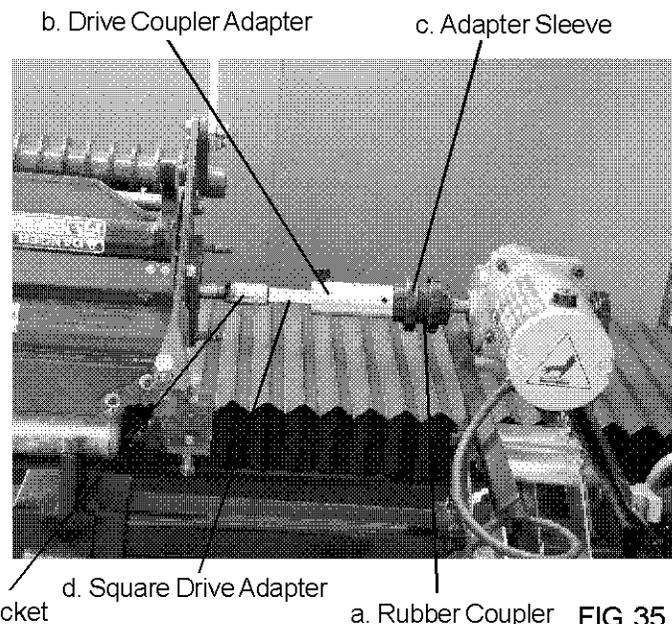

FIG. 35
- E. If the left side is lower than the right, turn the vertical adjusting grey handwheel in the cross slide assembly clockwise raising the mounting bar and the reel until the center shaft of the reel lightly touches the extended indicator rod. See FIG. 35.